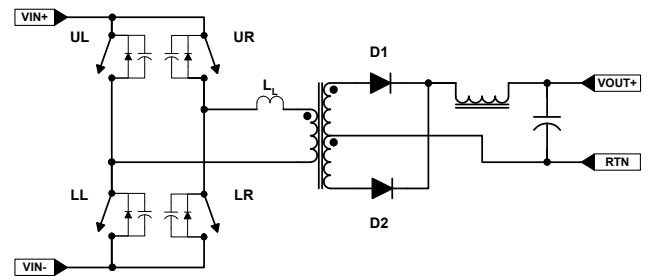
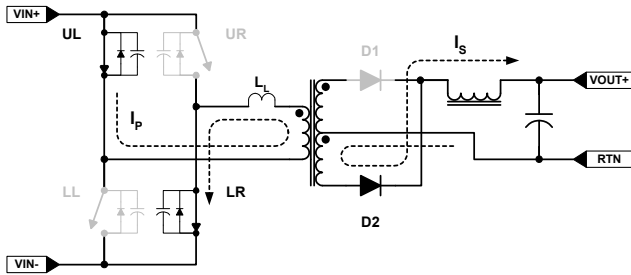

FIGURE 10. IDEALIZED FULL-BRIDGE
FIGURE 11. UL - LR POWER TRANSFER CYCLE
In Figure 10, the power semiconductor switches have been replaced by ideal switch elements with parallel diodes and capacitance, the output rectifiers are ideal, and the transformer leakage inductance has been included as a discrete element. The parasitic capacitance has been lumped together as switch capacitance, but represents all parasitic capacitance in the circuit including winding capacitance. Each switch is designated by its position, upper left (UL), upper right (UR), lower left (LL), and lower right (LR). The beginning of the cycle, shown in Figure 11, is arbitrarily set as having switches UL and LR on and UR and LL off. The direction of the primary and secondary currents are indicated by  $I_p$  and  $I_s$ , respectively.